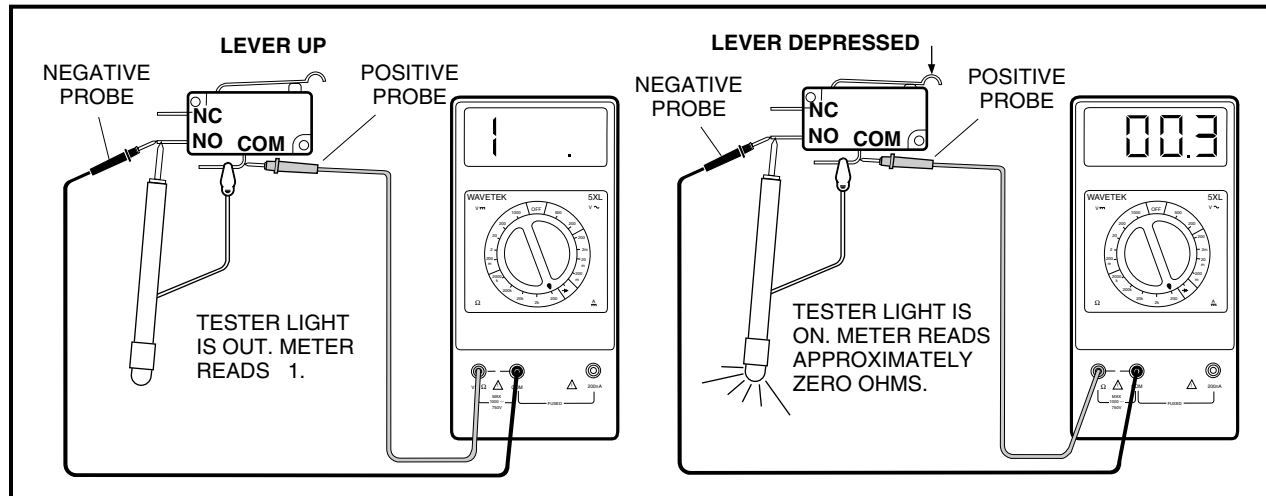

Figure 11-33 Test Lockout Cam Limit Switch
4. Set the multimeter to 200  $\Omega$  (ohms). Place the red (+) probe of the multimeter on the common (COM) terminal of the limit switch. Place the black (-) probe on the normally open (NO) terminal of the switch. Without the lever depressed, the reading should be no continuity. Depress the lever, and the reading should be continuity. If either reading is incorrect, replace the limit switch (**Figure 11-33, Page 11-28**).